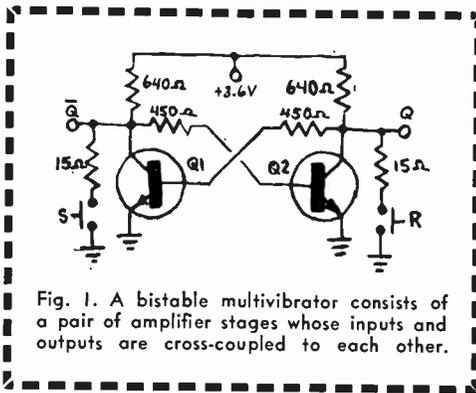

Fig. 1. A bistable multivibrator consists of a pair of amplifier stages whose inputs and outputs are cross-coupled to each other.
**Bistable Multivibrators.** The JK flip-flop is a sophisticated and highly versatile form of the bistable multivibrator. As shown in Fig. 1, a bistable multivibrator is simply a pair of amplifier stages whose inputs and outputs are cross-coupled to each other.
When power is applied to the circuit in Fig. 1, a state in which one transistor conducts heavily and the other transistor is held at cutoff is forced upon the circuit. A heavily conducting transistor has a collector-to-emitter resistance that is very low (on the order of between 10 and 20 ohms). If the collector load resistance is about 40 times this value (typically 640 ohms in an IC package), virtually the entire supply voltage
In Fig. 2, making the input of Q3 positive ( $S = 1$ ) has the same effect as pressing switch S in Fig. 1. Similarly, making the input of Q4 positive ( $R = 1$ ) has the same effect as pressing switch R. The circuit in Fig. 2 is known as an RS (for reset-set) flip-flop or a latch, the latter term derived from its operational resemblance to a latching relay.
**The Toggled Flip-Flop.** There are certain advantages to having a flip-flop that can be made to toggle or shift from state to state with the application of a pulse to a single input point and without having any doubtful states. The circuits in Fig. 1 and 2 cannot accomplish this. What is needed is a circuit like that shown in Fig. 3, in which diode gates are used to "steer" the input pulse to the side of the circuit where it will be effective. (The diodes in this circuit are biased according to the conductive states of their respective transistors. This means that one of the diodes will be biased in such a way that it cannot pass the pulse, while the other diode, more appropriately biased, can at any given instant.)